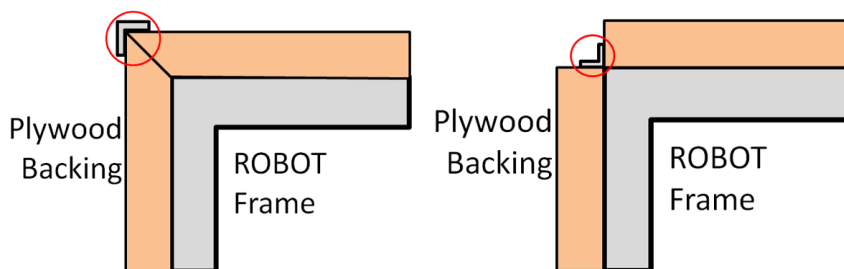

Figure 9-6 Hard parts of BUMPER corners
- F. optionally use metal brackets (i.e. angle or sheet metal) or other fasteners (e.g. staples, screws, adhesives, etc.) to attach BUMPER segments to each other (see Figure 9-6).